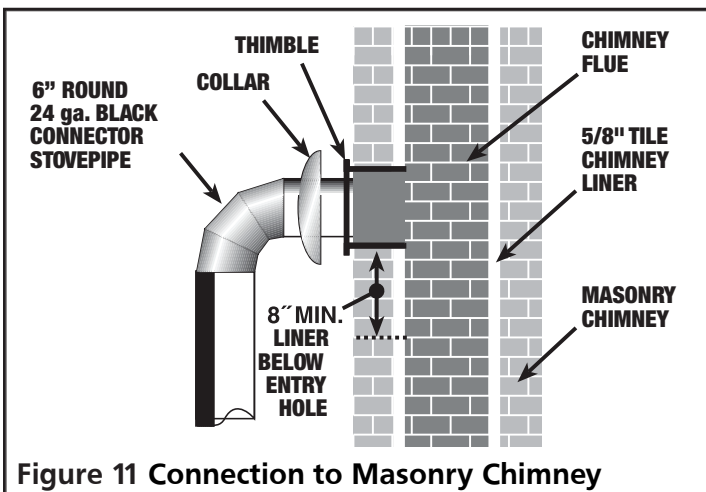

Figure 11 Connection to Masonry Chimney
- Be installed so that its butt is flush with the chimney lining (see Figure 11 page 10)
6. Install the stove pipe so that it is as far as possible into the thimble without protruding passed the flue lining (again, see Figure 11 page 10)